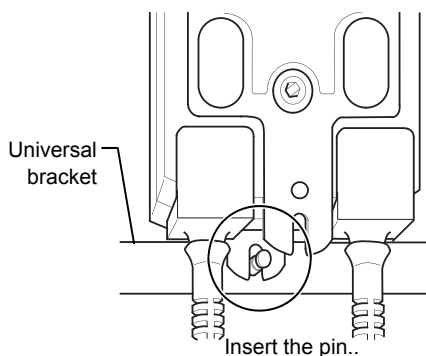

Figure 11. Fixing the actuator with the universal bracket
- 10) Fix the actuator with the universal bracket on the duct. Insert the pin of the universal bracket into the notch of the actuator to fix the actuator on the duct. See Fig. 11.
- 9) Fix the actuator with the universal bracket on the duct. Insert the pin of the universal bracket into the notch of the actuator to fix the actuator on the duct. See Fig. 11.